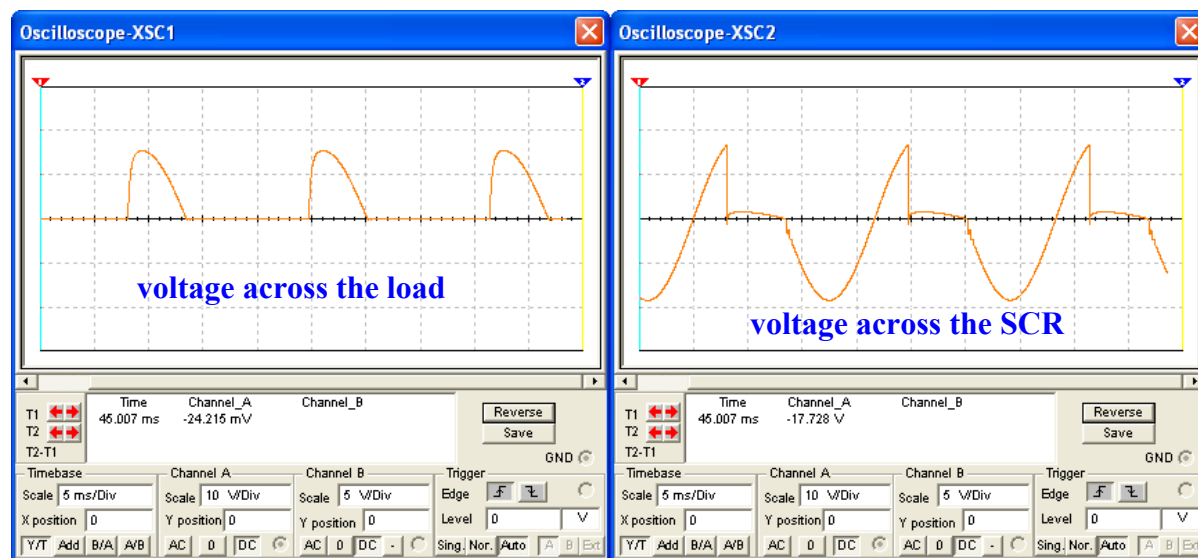

Figure 6-2. Waveforms across the load and across the SCR.
3. You should notice then that R1 controls how much voltage is applied to the lamp (load). Figure 6-2 shows an example of the voltage that you should observe across the load and across the SCR.
By observing the waveforms in Figure 6-2, it can be seen that when the SCR is conducting the voltage across the SCR is about zero. Additionally, when the voltage across the load is zero, the SCR is off and the corresponding portion of the applied voltage appears across the SCR.